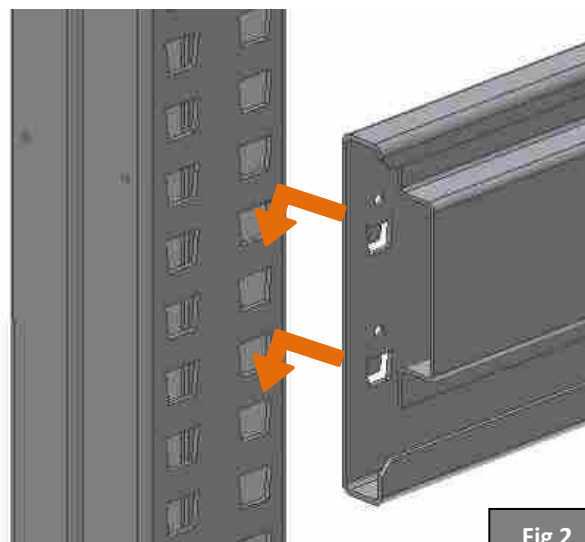

Fig 2
STEP 1 – Insert the hooks of the **TFT support** in the trapezoids of the **frames** (Fig.2).